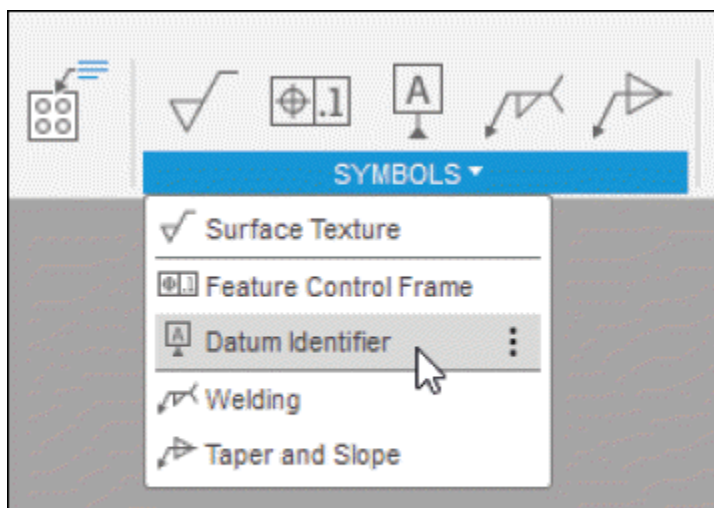

Figure-105. Datum Identifier tool
- Click on the **Datum Identifier** tool from **SYMBOLS** panel of **Toolbar**; refer to Figure-105. The tool will be activated.